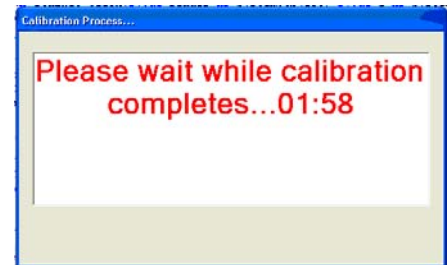

Figure 1k
- The screen in Figure 1k will display with a 2 minute countdown.